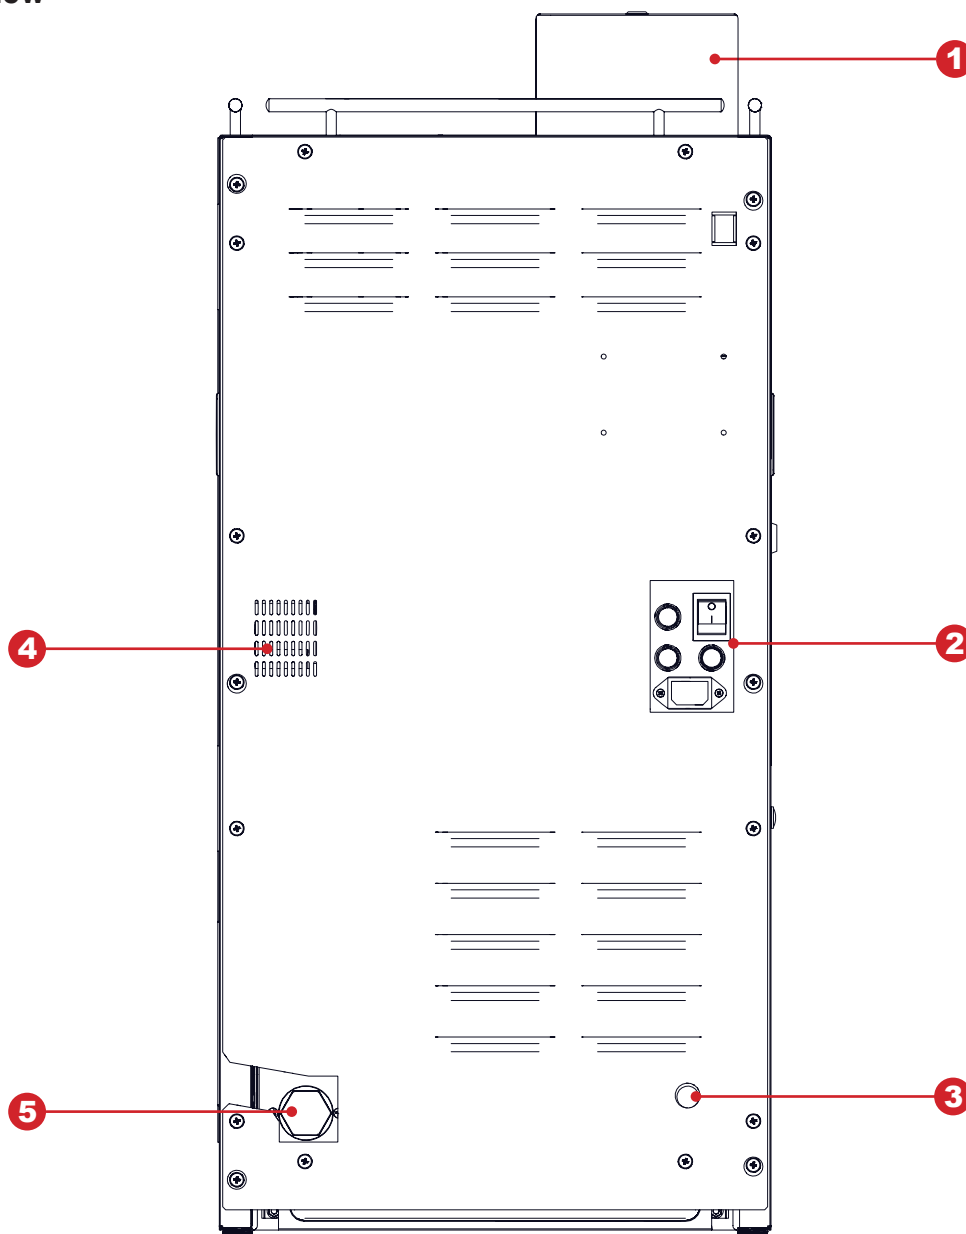

Fig.5.4
The vending machines can also be connected directly to the water supply mains, taking into consideration the applicable laws of the country of use. The inlet nozzle for connection to the water supply mains is situated on the rear panel of the vending machine (see fig.5.4) and comprises of a threaded connector of diameter $\frac{3}{4}$ ". The machine is connected using a pipe, which can handle the pressure of the water supply and which is suitable for use with food products (minimum inner diameter of 6mm).
- Set the switch on the switch board of the machine to position **[O/OFF]** (see fig.5.4 pos.2);
- Set the switch on the switch board of the machine to position **[I/ON]** (see fig.5.4 pos.2).
For water supply connection we have a silicone water pipe, which comes with the package (see fig.4.2 pos. 5), which from one end is connected to water inlet (see fig.5.4 pos.3) and from the other end of the tube is immersed into the source of water (canister/bottle).